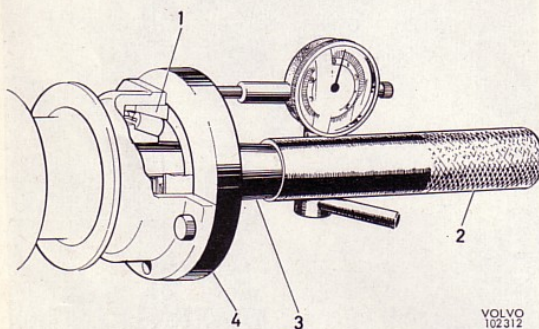

Fig. 16. Measuring axial play for drive shafts
Fit the brake backing plate and retainer with the felt seal. Pull the bearing outer ring out towards the brake backing plate with tool SVO 2204. Fit holder SVO 2611 securely with the dial indicator on the drive shaft. Set the indicator pointer facing the brake backing plate and measure the axial play. (Compare point 6 and Fig. 16.) If the play is incorrect, remove the brake drum on the left-hand side and also the brake backing plate. Then adjust the play according to points 5b—10 below. If the play is correct, proceed in accordance with points 7—10.
6. Fit the holder SVO 2611 with the dial indicator on the drive shaft, see Fig. 16. Aim the indicator pointer at the plate, move in the shaft and zero-set the indicator. Pull the drive shaft outwards and read off the play. To adjust to the correct play, select the size of shim according to the table on the next page.